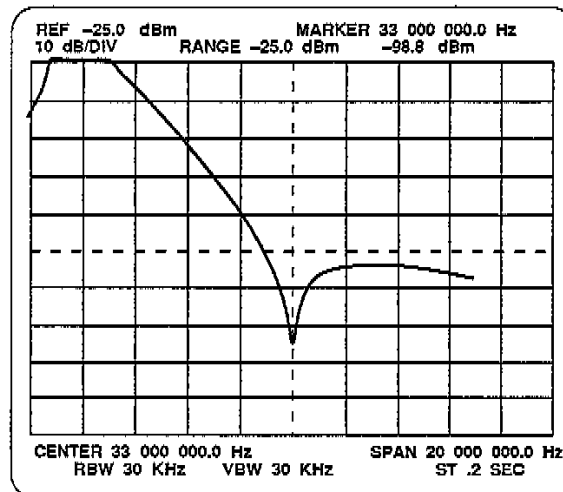

Figure 3-20. 25 MHz Bandpass and 33 MHz Notch filter.
5. Adjust C81 for maximum null (notch) at 33 MHz. Refer to Figure 3-20.